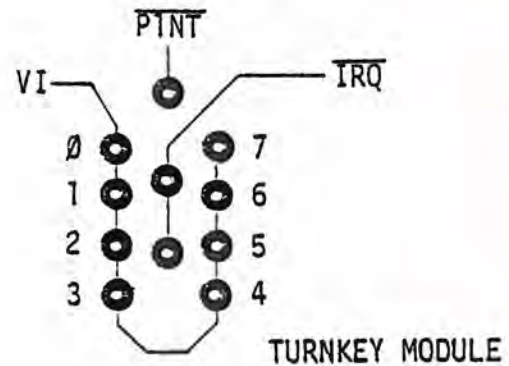

Figure 3-4
4) Interrupts. The SIO generates an interrupt signal that may be connected to an interrupt line on the bus by means of jumpers. The jumper pads are shown in Figure 3-4.